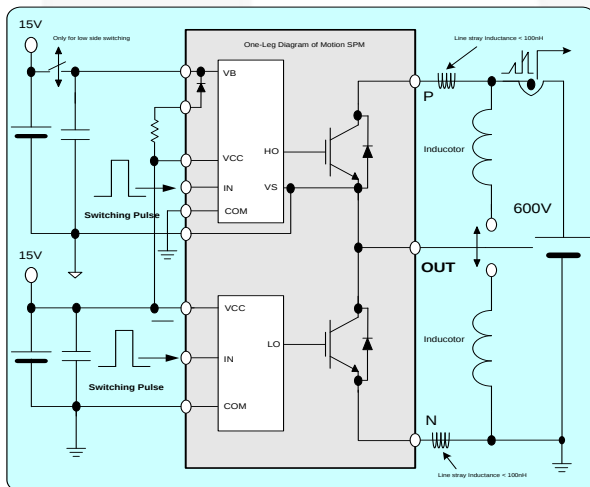
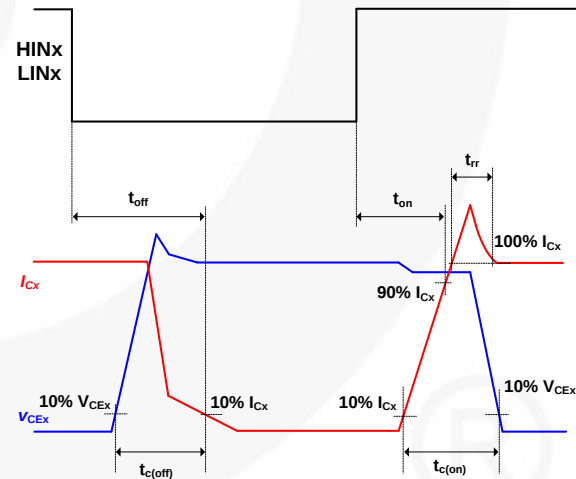

Figure 8. Switching Evaluation Circuit
Figure 9. Switching Time Definition
7. t_{ON} and t_{OFF} include the propagation delay time of the internal drive IC. $t_{C(ON)}$ and $t_{C(OFF)}$ are the switching time of IGBT itself under the given gate driving condition internally. For the detail information, please see Figure 8 and Figure 9.